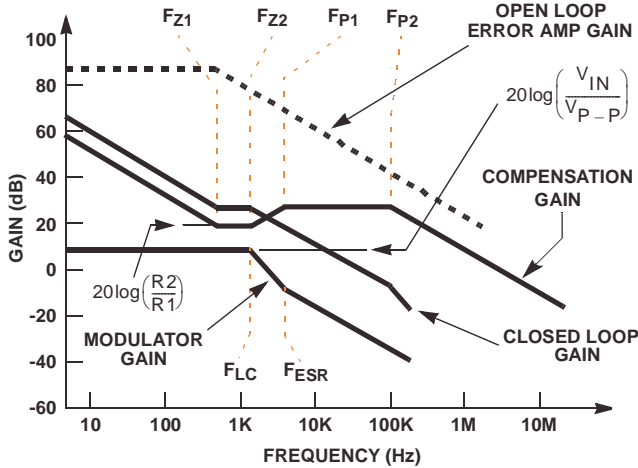

FIGURE 9. ASYMPTOTIC BODE PLOT OF CONVERTER GAIN
Figure 9 shows an asymptotic plot of the DC-DC converter's gain vs. frequency. The actual Modulator Gain has a high gain peak dependent on the quality factor (Q) of the output filter, which is not shown in Figure 9. Using the above guidelines should yield a Compensation Gain similar to the curve plotted. The open loop error amplifier gain bounds the compensation gain. Check the compensation gain at F_{P2} with the capabilities
of the error amplifier. The Closed Loop Gain is constructed on the log-log graph of Figure 9 by adding the Modulator Gain (in dB) to the Compensation Gain (in dB). This is equivalent to multiplying the modulator transfer function to the compensation transfer function and plotting the gain.